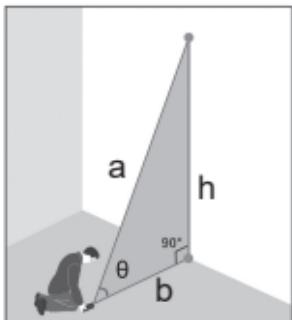

Figure 1
- ① Calculate height by measuring angle  (as shown in Figure 1)
(Figure 1)
Step 1: Measure the area once (Figure 1);